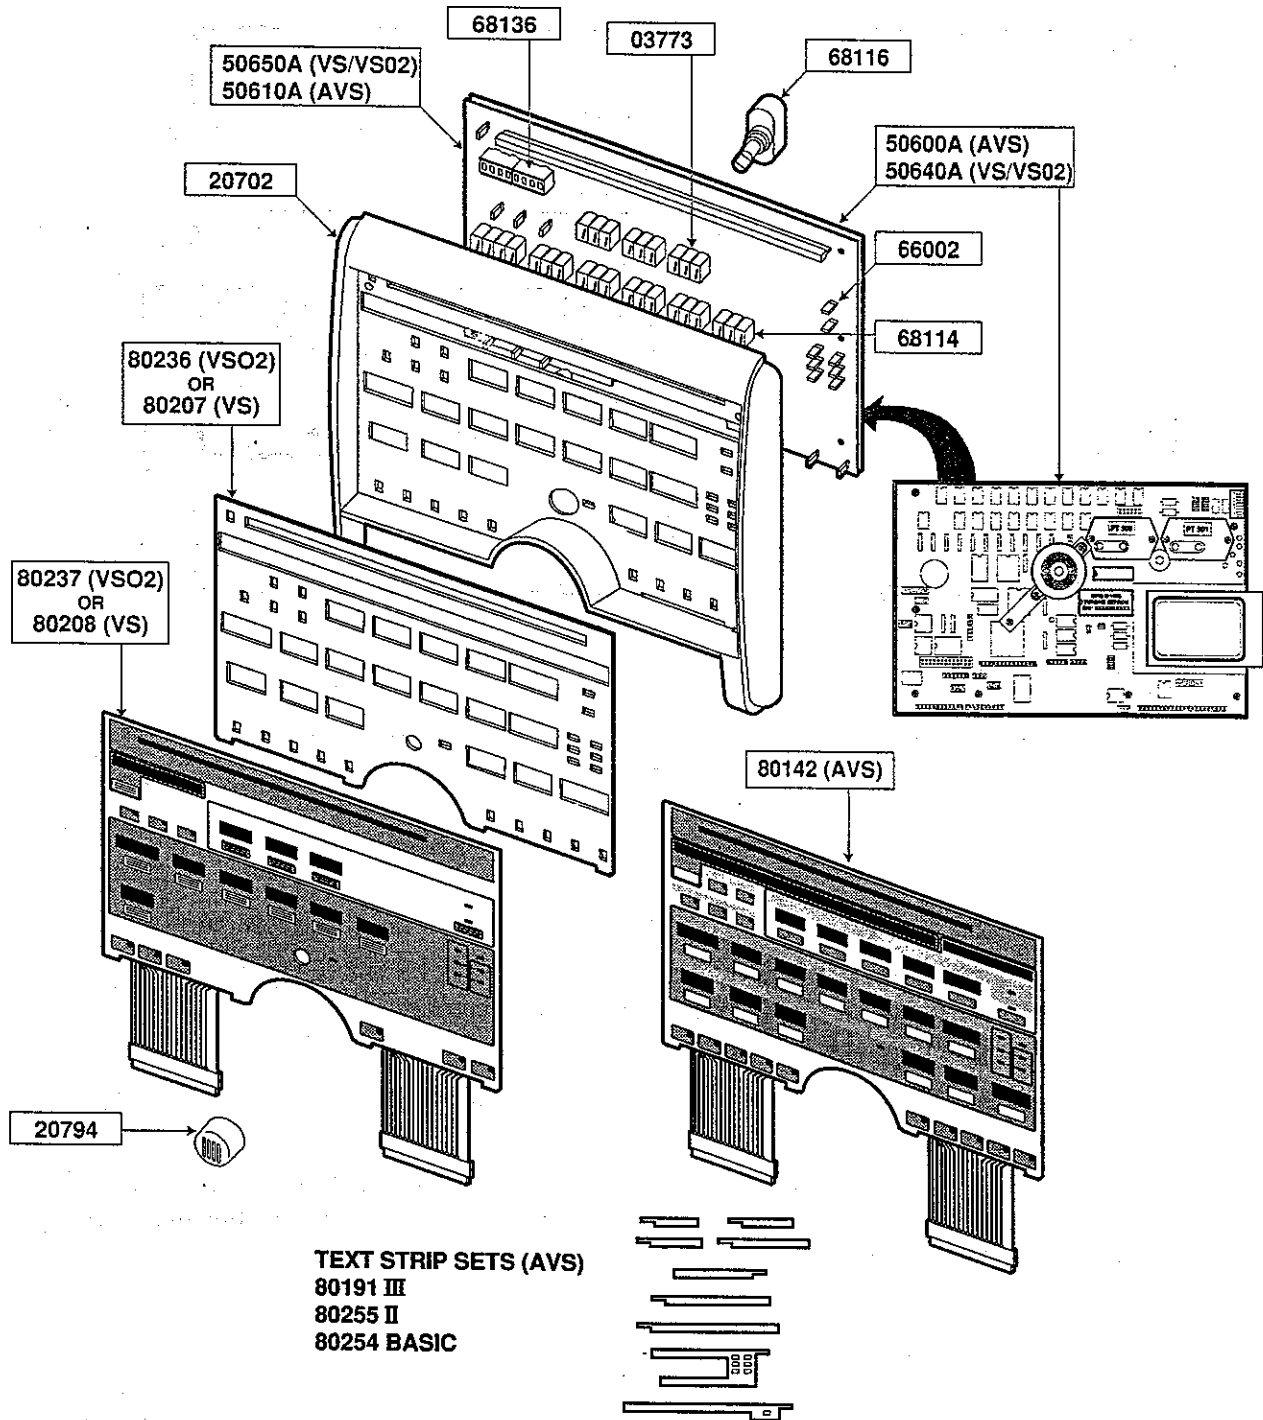

Figure 5-9. Front Panel Disassembly
- 2 To remove the Front Panel Encoder: Refer to Figure 5-9.
- a) Disconnect the two (2) ribbon cables in the lower corners of the Main PCBA. (Refer to Figure 5-9.)